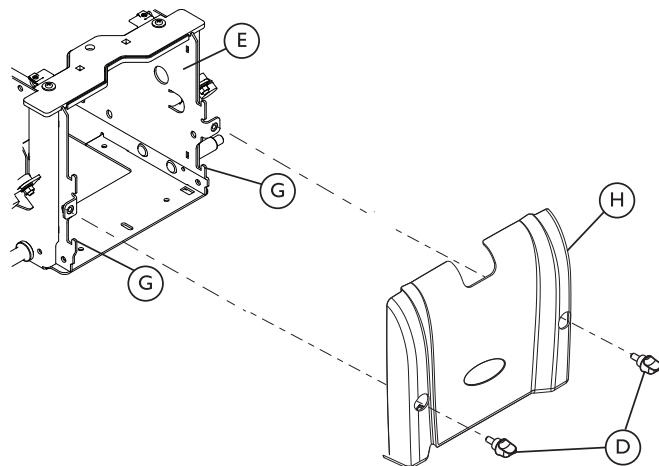

Fig. 10-2 Removing the Front Shroud
- All other power wheelchairs—The front shroud and battery retention bracket (I) are removed and installed as a single assembly. Refer to *Fig. 10-2 Removing the Front Shroud*, page 43.